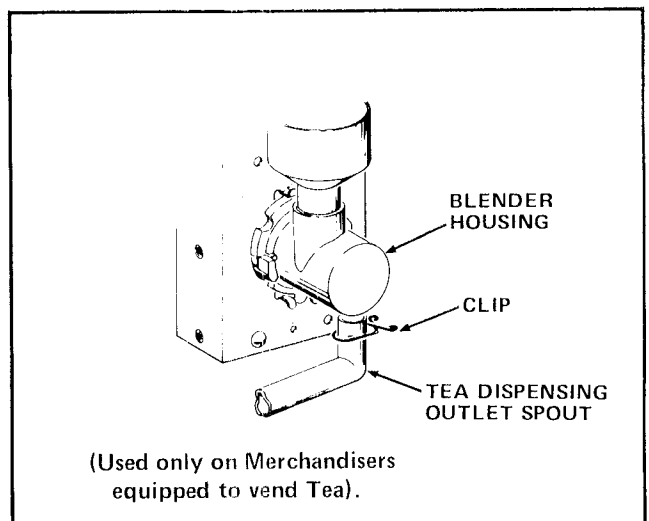

FIGURE 3
5. On Merchandisers equipped to vend Tea, remove the Tea Dispensing Outlet Spout from the Blender Housing by squeezing the ends of the Clip and pulling down on the Tea Dispensing Outlet Spout. Lay aside on the Syrup Tanks. See Figure 3.
9. On Merchandisers equipped to vend Tea, install the Tea Dispenser Outlet Spout. See Figure 3.
11. On Merchandisers equipped to vend Tea, install the Tea Dispenser Outlet Spout. See Figure 3.